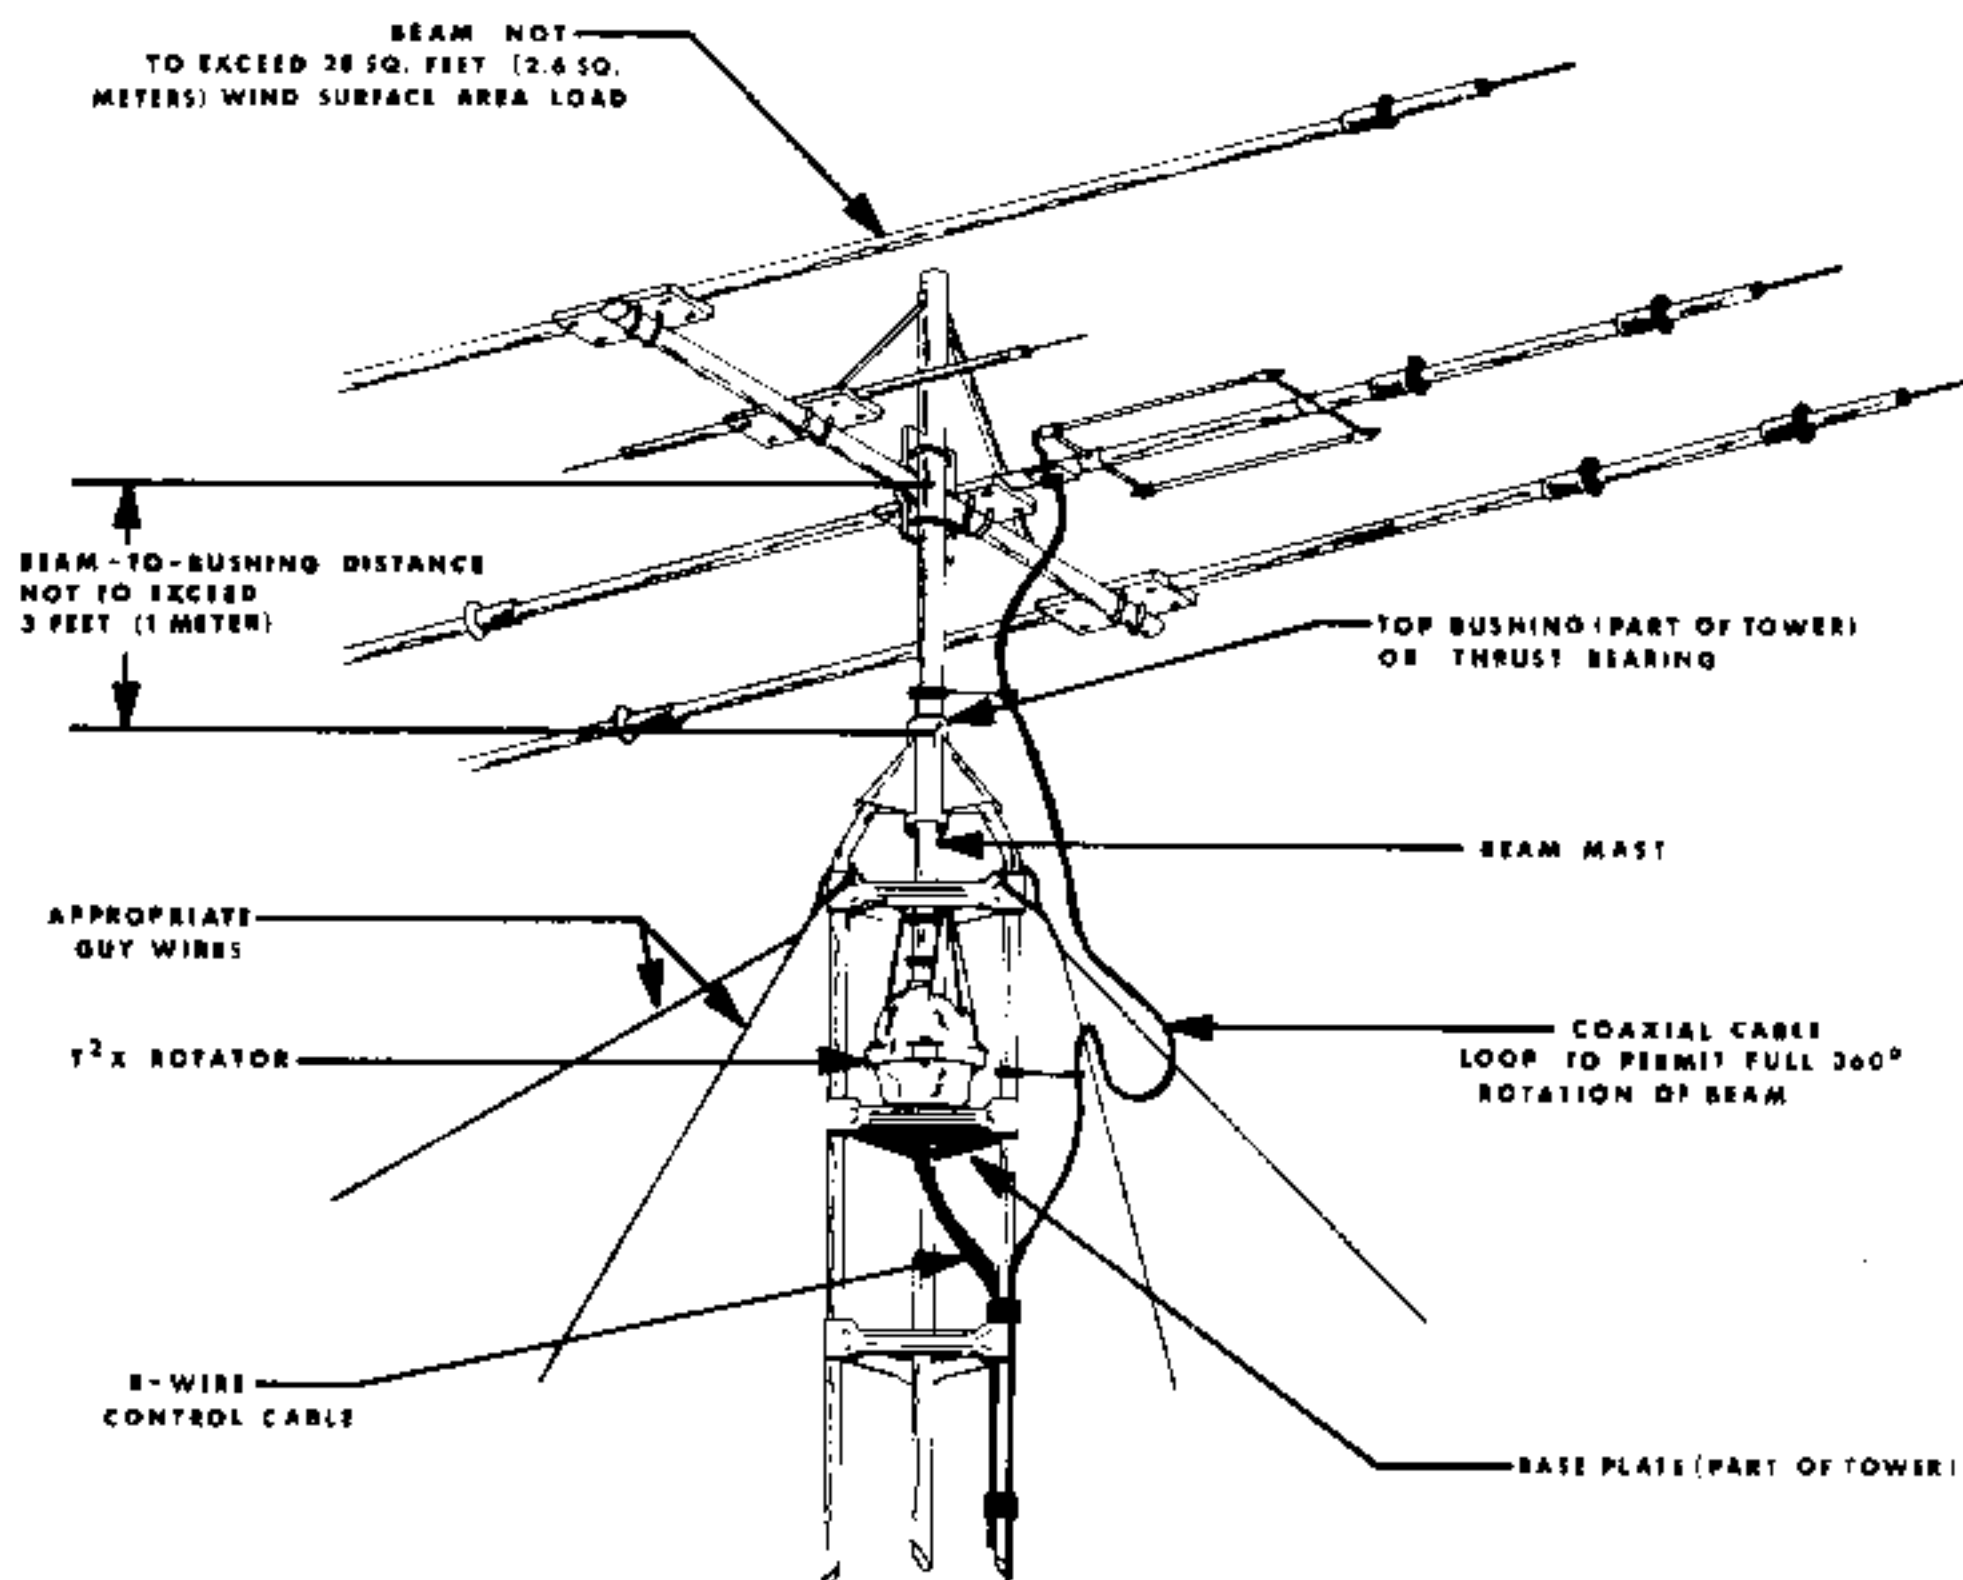
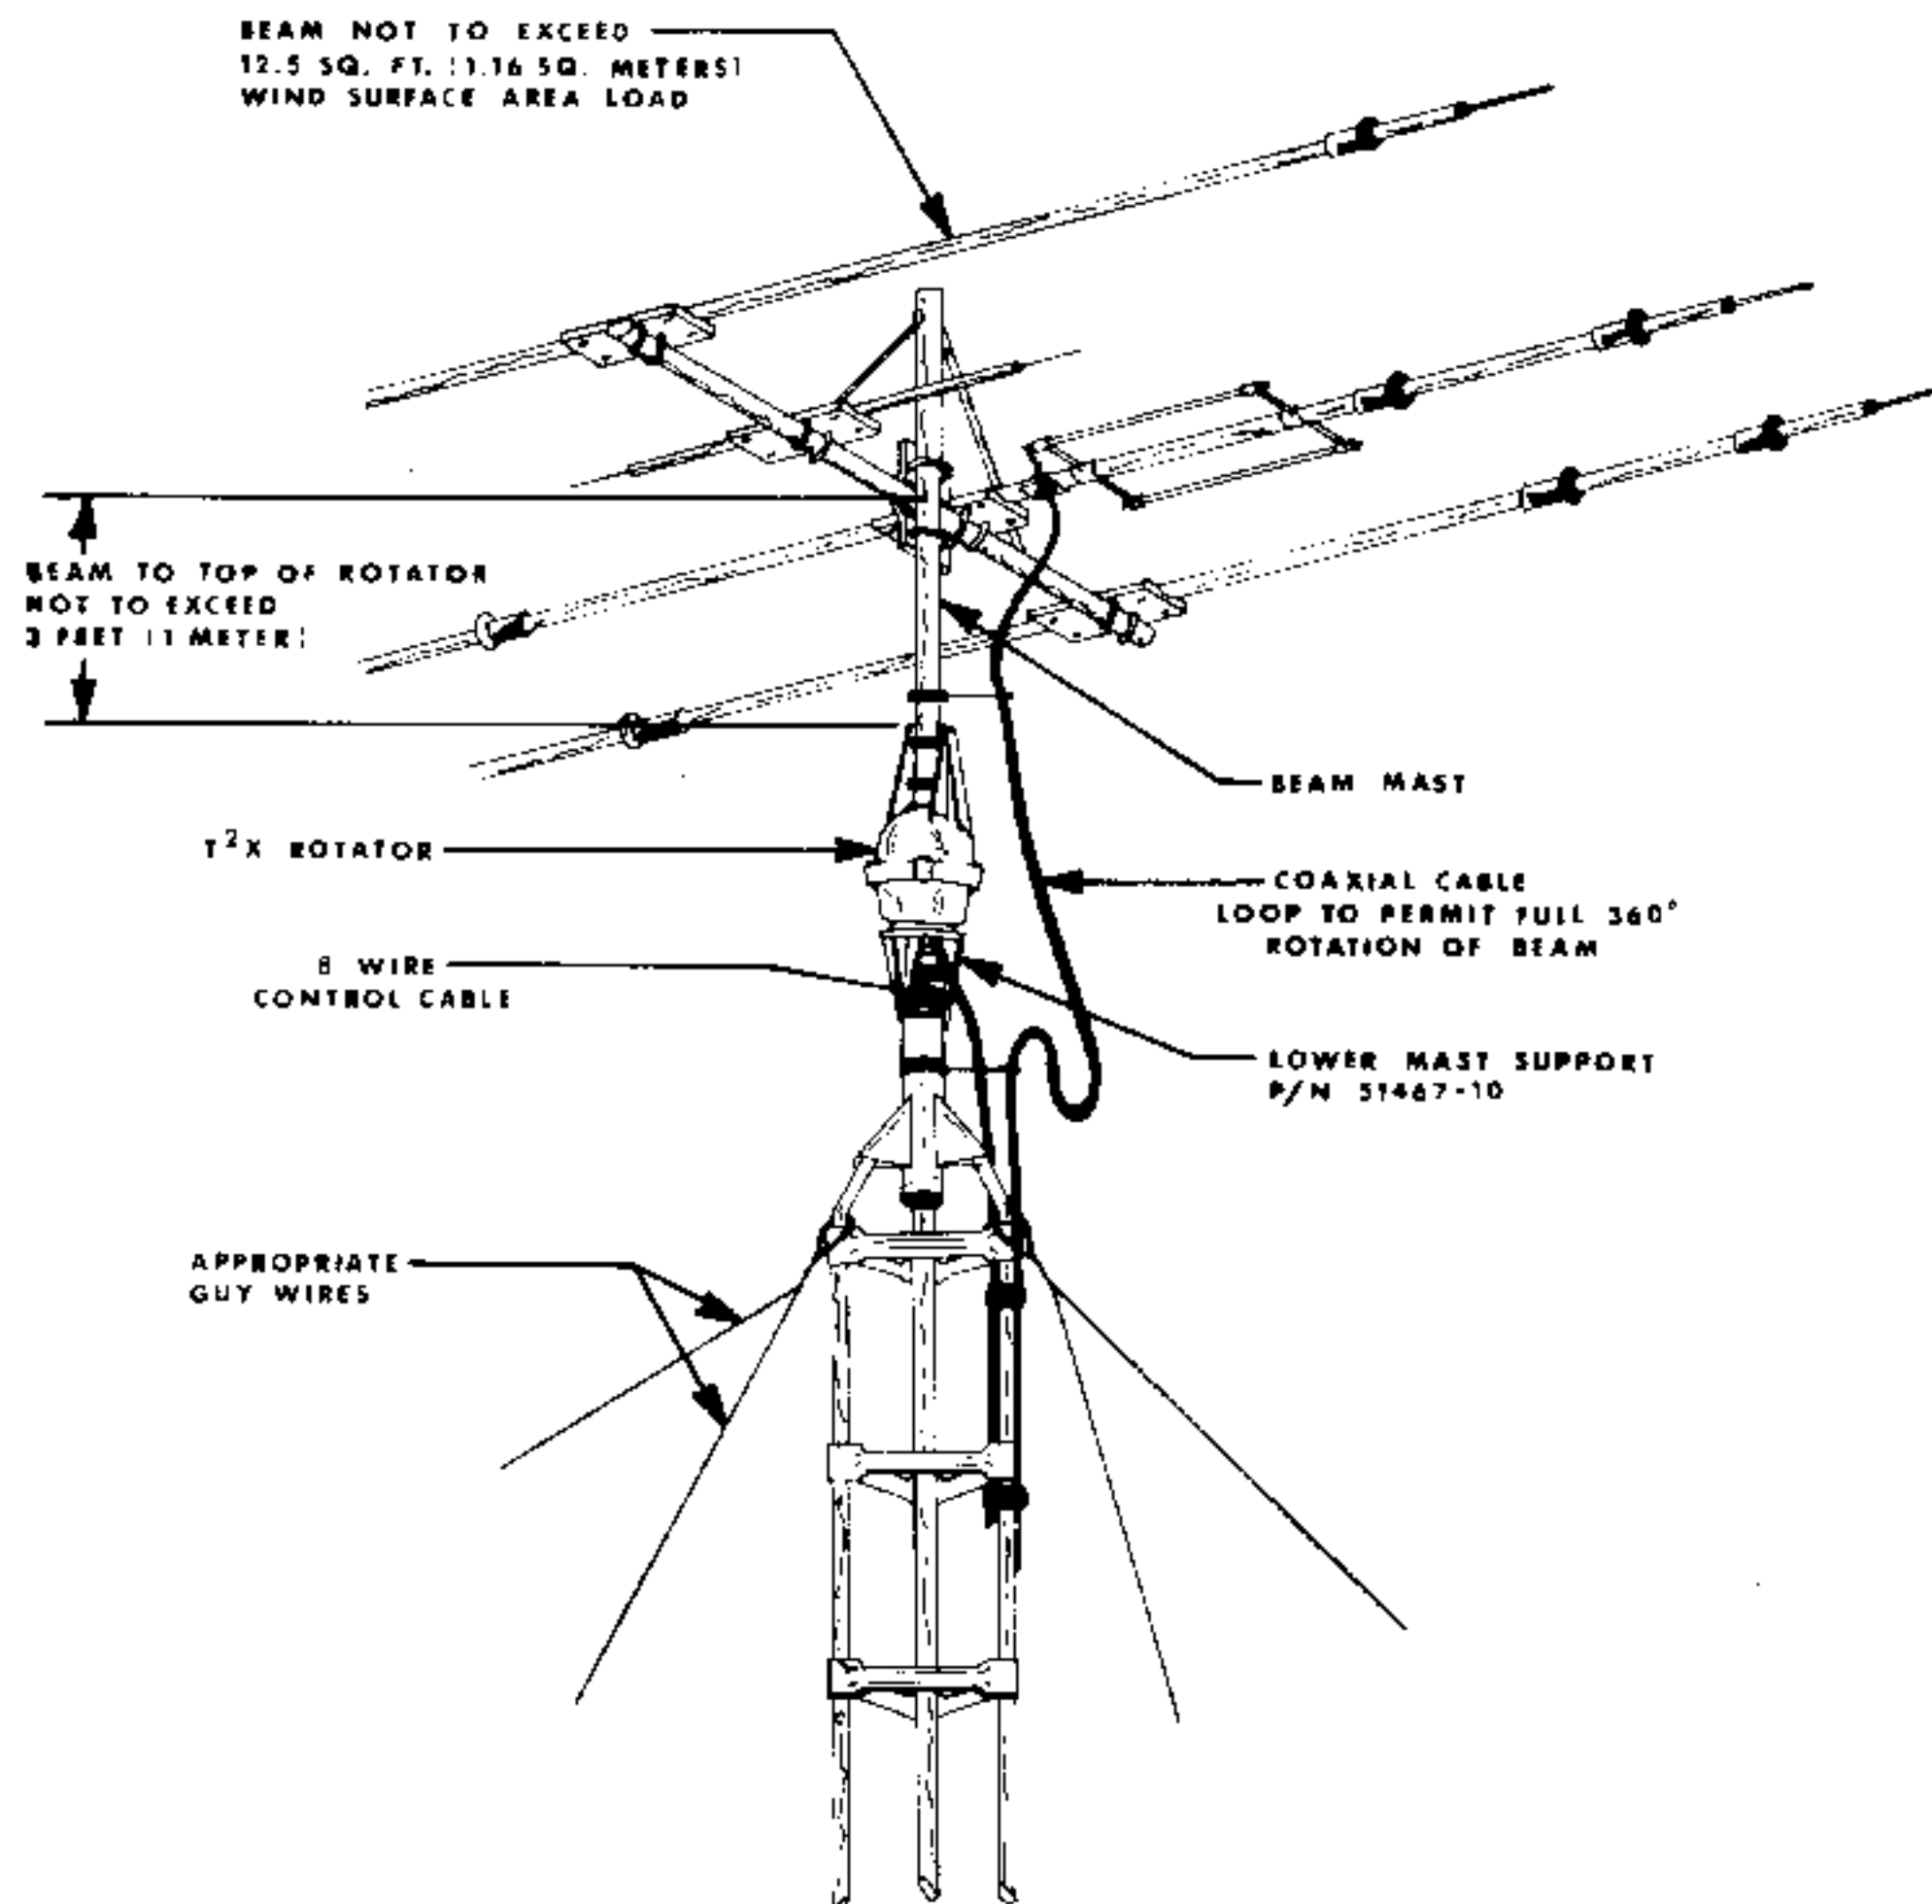

FIG. 1 - INSIDE TOWER MOUNTING
FIG 2 - TOP OF TOWER MOUNTING
- D. When not mounted within a tower with a thrust bearing as shown in Figure 1, the rotator must be **DERATED** - See specifications.
The Tailtwister rotor consist of an extra heavy duty rotator and control unit. The rotator is designed to be mounted on a plate inside a tower. A mast to support and turn large communications beams (see figure 1) is then attached to the top of the rotator. The rotator must be wired to the control unit with eight-wire cable. The control unit may be placed inside the house or other protected location. Included with the rotor are:
- G. Optional lower heavy duty Mast Support Kit must be procured if the owner elects to use an "outside" tower mount (see figures 2 and 3). The part number for the Lower Mast Support Kit is 51467-10. "Inside" tower (figure 1) is recommended.
There are three general types of installations (see figures 1 through 3).
2. An "outside" tower mount as shown (See Figure 2) is optional. The rotator is not as well protected but the installation is simpler. The owner must procure the Heavy Duty Lower Mast Support Kit, P/N 51467-10, to install as in figure 2 and derate to 12.5 square feet (1.16M²)
There are variations of the above falling generally into one of the above categories. For example, the rotator may be mounted lower in the tower than shown in Figure 1. In that case, more than one bushing or thrust bearing for the beam mast may be required and longer coast down time allowed in operation. These factors are interrelated and the components must be matched together.
A. **INSIDE TOWER** The rotator is mounted inside a tower (see figure 1) to the flat tower plate by means of six bolts furnished in the hardware kit. Use the following procedure:
9. Return the rotator to the full CW "S" position. Mount the beam pointing South. The coaxial cable should be looped as per Figure 1 in such a manner that it will not foul or tangle when the beam turns around in a circle to the full 360° clockwise position.
Referring to figures 2, 3 and 7 an outside tower or pole mount is made in the same manner except that the rotator is fastened by four bolts only (not six), to the lower mast support, P/N 51467-10. Since the eccentricity of the rotator turning in reference to the tower is no longer important, the shimming procedure is not necessary. The four screws must be torqued to the same specification and the 8-wire cable securely fastened. The lower mast support should be pinned with the bolt provided by drilling in the same manner as described for the upper bell casting. **CAUTION:** The rotator is designed for vertical operation with the bell shaped housing in the up position. Water and other contamination will get into the motor unit if it is mounted horizontally or up-side down.
The stock Tailtwister T²X is intended to mount on the base plate inside of the tower. However, in some instances outside tower or mast mounting is desired as per figures 2 and 3. This kit, part number 51467-10, contains a heavy duty lower mast support and the necessary hardware to facilitate mounting the T²X on top of a tower stub or mast. Caution, when the rotator is installed using the lower mast support kit, the antenna size must be restricted to 12.5 square feet (1.16m²) of wind surface area.